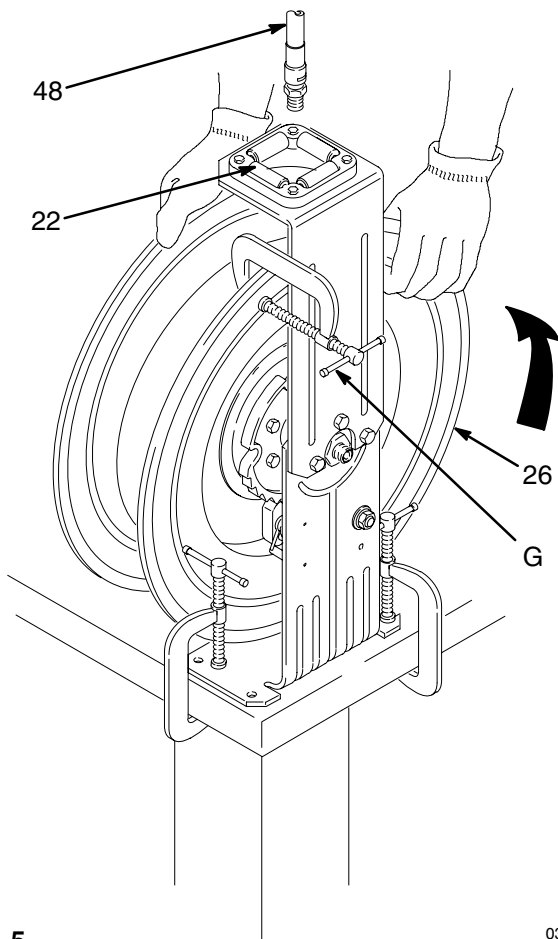
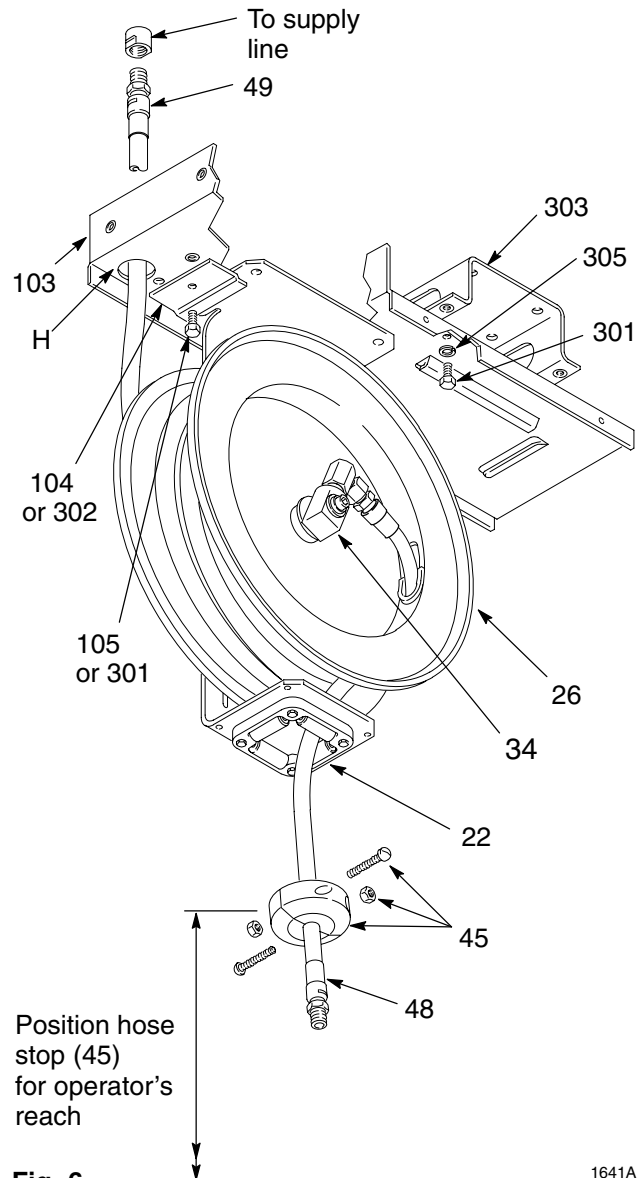

Fig. 5
Fig. 6
**If you are installing the hose reel enclosure** (see **Side and End Enclosure Kits** on page 24 ), bolt the reel base (103) to the mounting channel (303) using the lockwashers (305) and screws (301) that are supplied with the mounting channel. See Fig. 6.
4. **Slide the hose reel onto the mounting base, and install the hold-down plate (104 or 302) and capscrew (105 or 301). Tighten the screw firmly. See Fig. 6.**
Wearing heavy gloves, firmly grasp the outside edge of the reel flange (26) with both hands. See Fig. 5. Wind the reel the proper number of turns, rotating it in the direction shown in Fig. 5, and stop only at latching locations. Stop the reel where there is access to the hose swivel (34) (see Fig. 6) and where the reel is securely latched.
**NOTE:** The reel base (103) has two holes (H). Run the inlet hose through either hole, depending on the orientation of the hose reel. See Fig. 6 on page 10.
7. Assemble the hose stop (45), and position it so the hose extends far enough for all operators to reach the dispensing valve. See Fig. 6 on page 10.